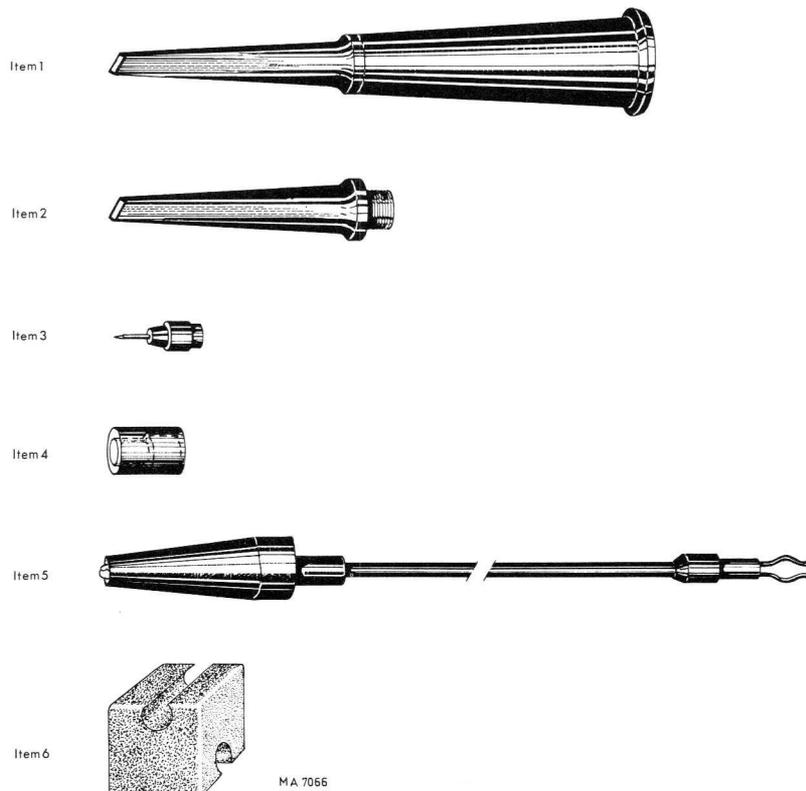

Fig. 2. Accessories
1.3. INFORMATION ON THE ACCESSORIES (Fig. 2)